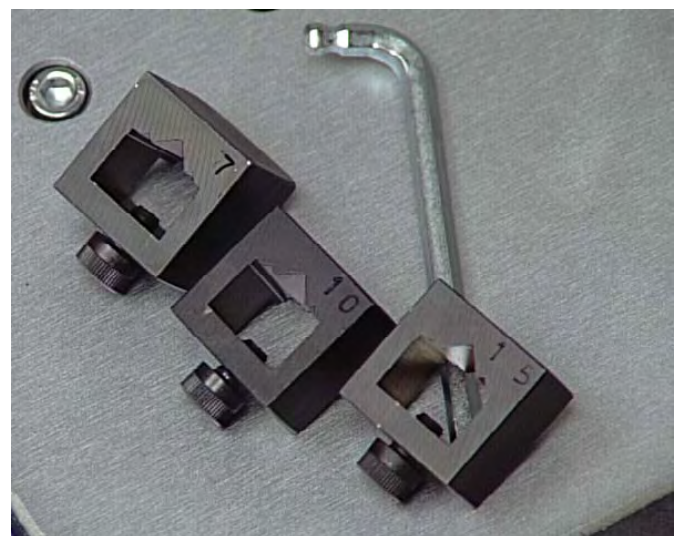

figure 11
- Insert the new size V-nail guide head to match the V-nails to be used (see fig. 11).